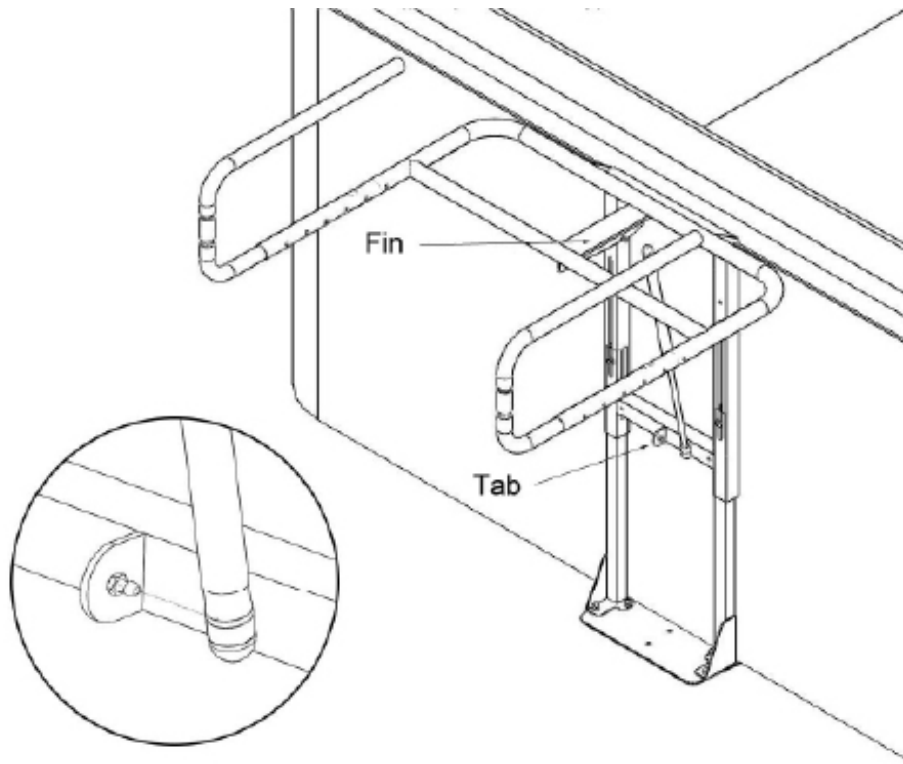

Figure 10
- 10 Attach the ccL Ball Studs and ccK Lock Nuts to the Tab and Fin. Then snap the ccDD Gas Shock over the round ends of the Ball Studs. See Fig 10.